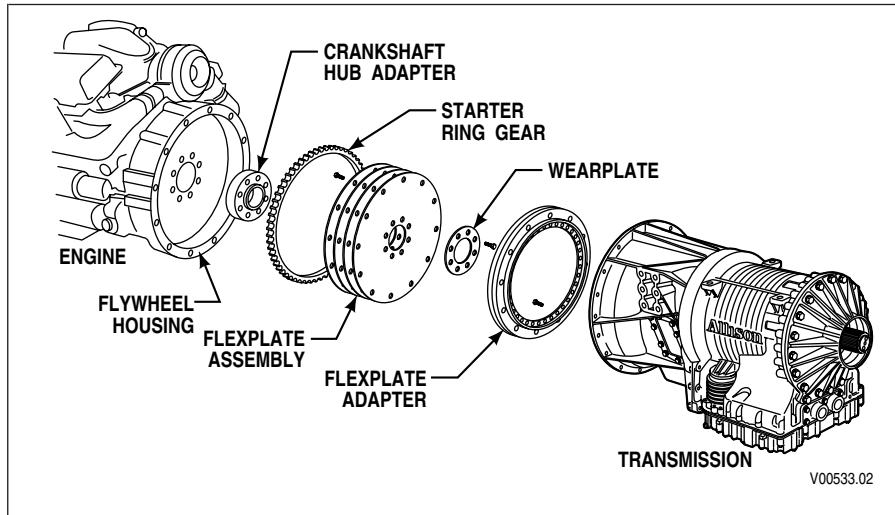

Figure 5–4. Arrangement of Adaptation Components
- c. **Flexplate Assembly Installation.** Install the flexplate onto the engine crankshaft hub using the bolts and torque values specified for that engine. Refer to Figure 5–1 or Figure 5–2 for the proper position of an installed flexplate.